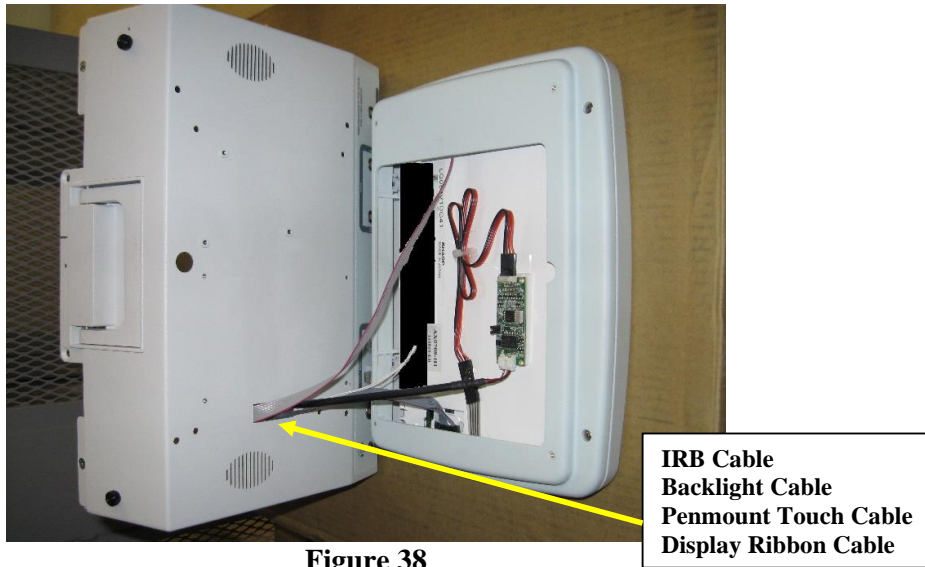

Figure 38
- 13.14. Place the Bezel face down onto a pad and install the cables through the opening of the chassis, as shown in Figure 38.